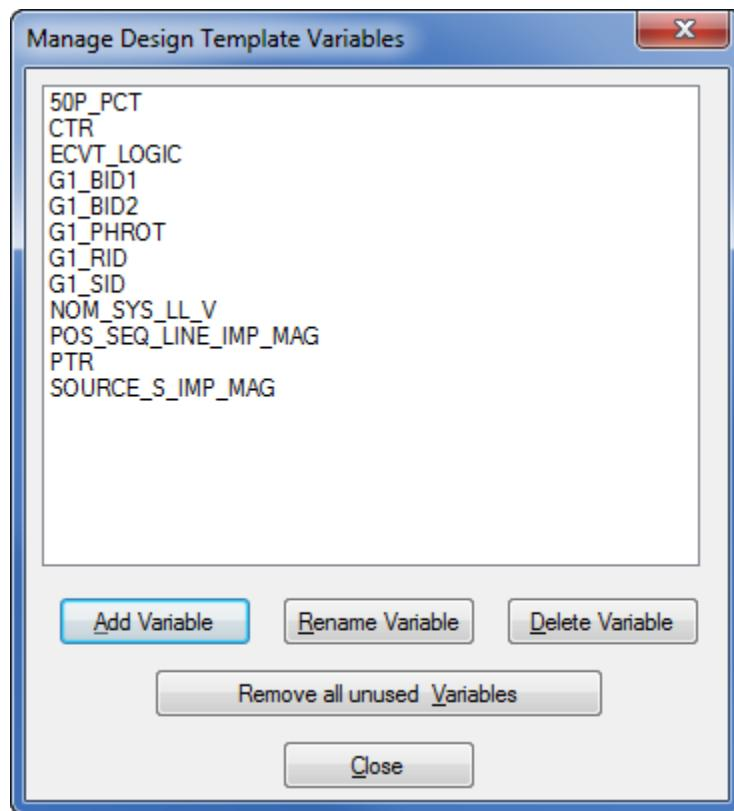

Figure 6.33 Add New Design Template Variables by Selecting Add Variable
Step 12. In the **Manage Design Template Variables** window, add four new Design Template Variables: RID_1, TID_1, CTR_1, PTR_1. To add a new Design Template Variable, click **Add Variable** and enter in the name of the new variable. The **Manage Design Template Variables** screen should appear as shown in *Figure 6.33*. Notice that there already are existing Design Template Variables, created from the **Add to Design Template** option used on the front-panel communications settings.